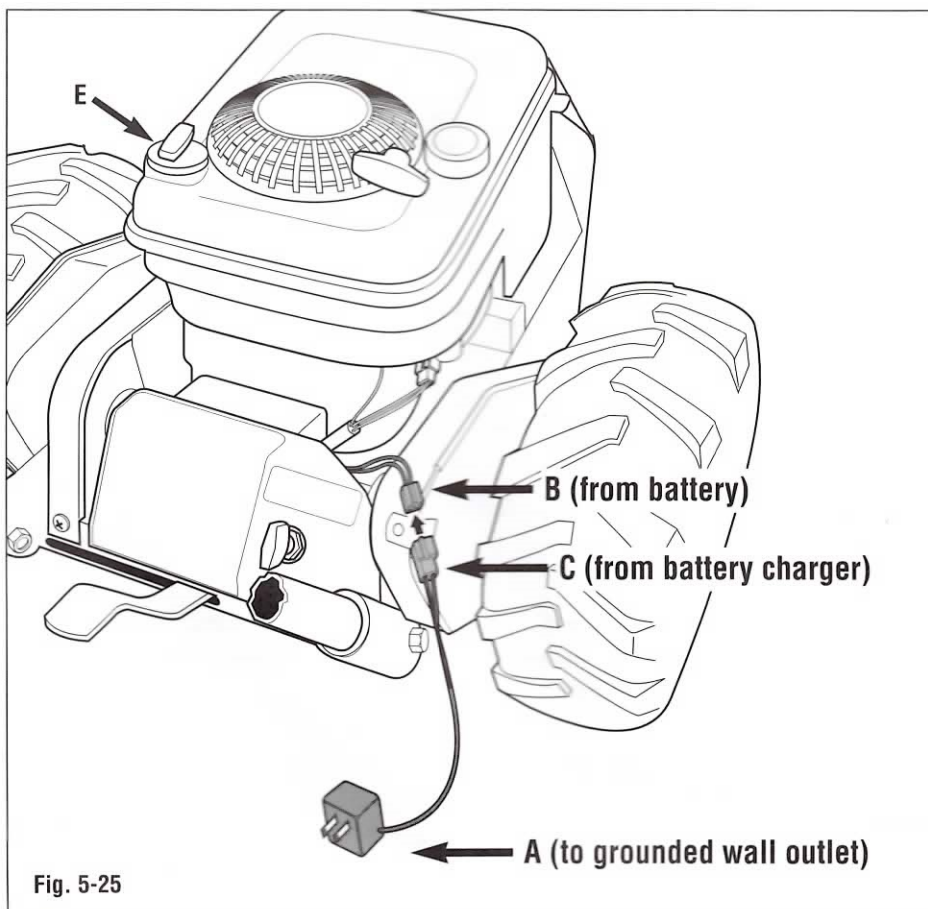

Fig. 5-25
2. Clean any debris away from the oil dipstick (E, Fig. 5-25).
1. Unplug the battery charger (A, Fig. 5-25) from the wall outlet.
2. Plug the battery wire lead (B) into the battery charger lead (C).